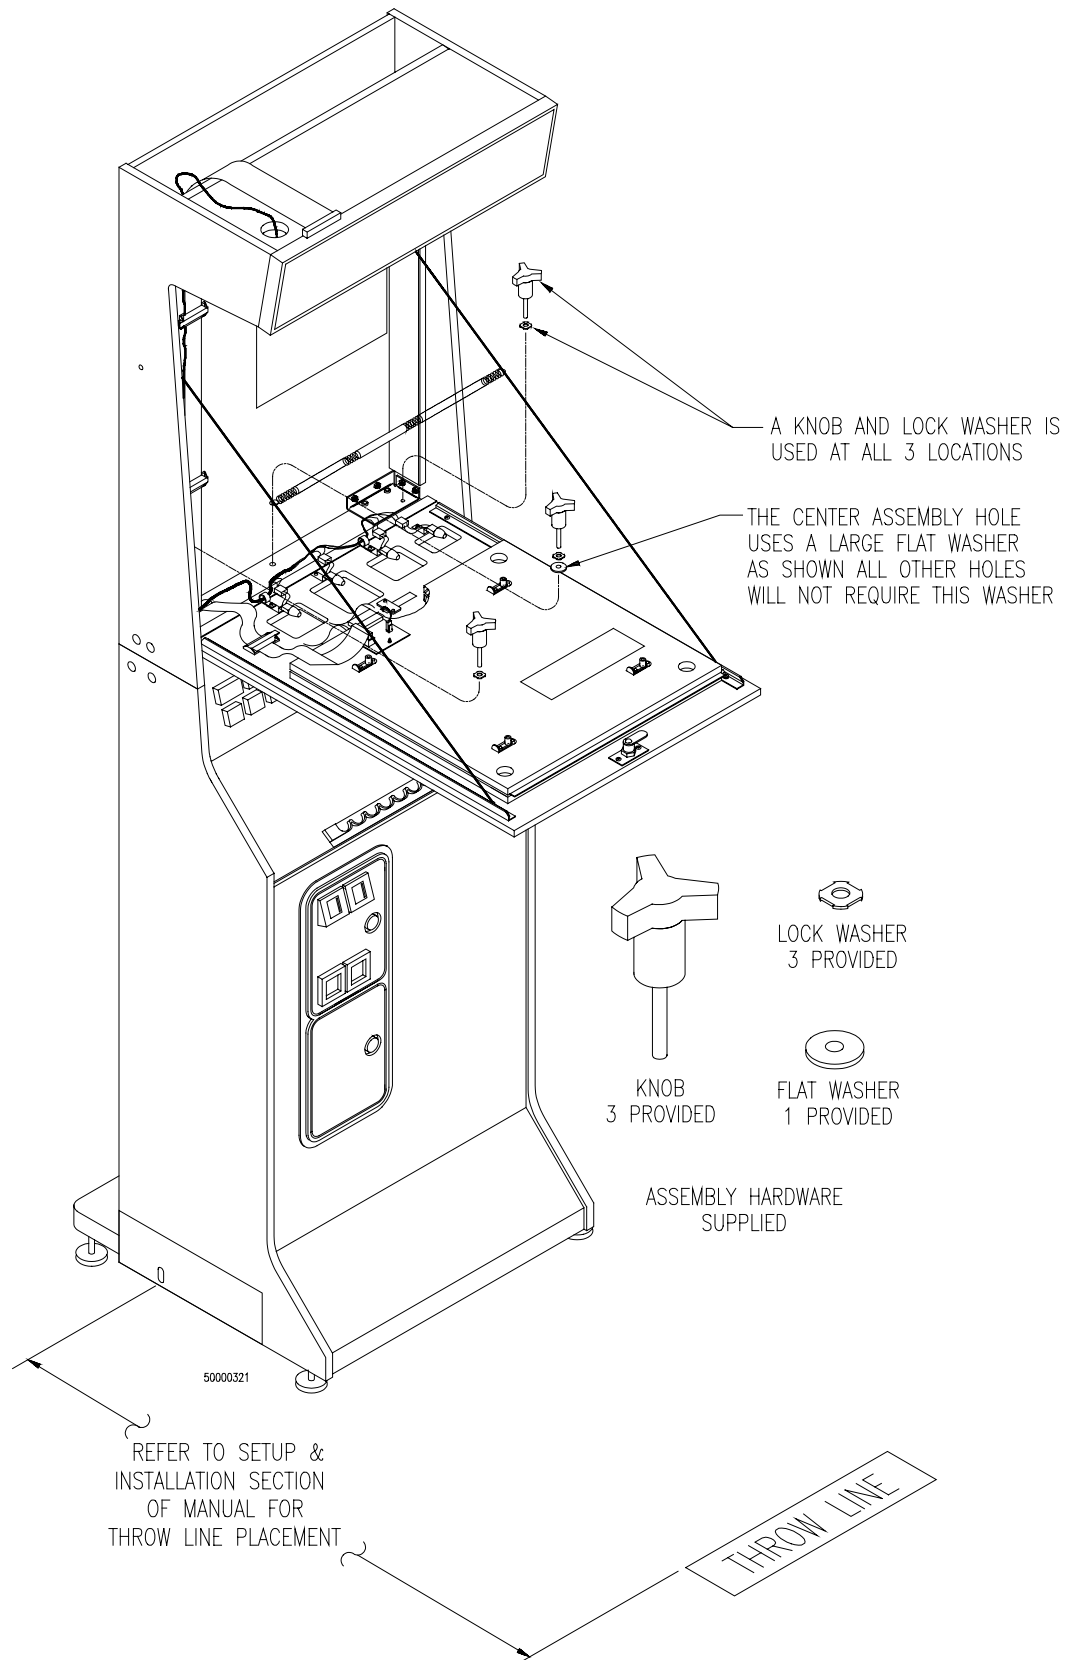

**Figure 7 - REAR VIEW OF GAME
2. Locate the Velcro hook on the base of the cabinet. The Velcro hook is holding the target section in its fold-down position. Pull the target section up until the Velcro latch on the target section door separates from the Velcro hook on the base section. Continue pulling the target section up until it locks into its upright position. Refer to Figure 7.
6. Remove the line cord from the coin box and attach it to the receptacle on the back of the cabinet. See Figure 7.
4. Locate the anti-tip bracket on the rear of the cabinet (see Figure 7). Pull upwards on the bracket while folding the top section down. Make sure that the top unit is resting on the metal support bracket and that the Velcro loop on the target section securely aligns with the Velcro hook on the base section.